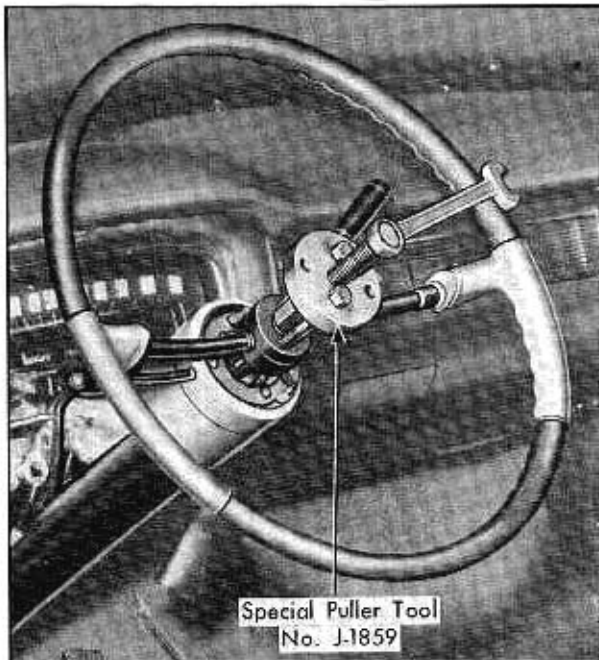

Fig. 7-14 Removing Steering Wheel
6. Remove steering wheel using Special Puller, Tool No. J-1859, Fig. 7-14.